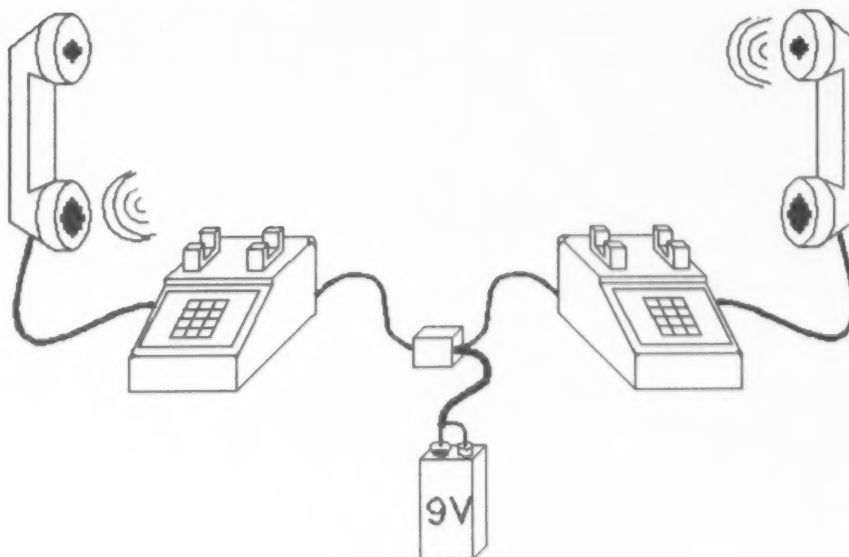

Figure 15 - Phone Connection
2. Connect the wiring harness to the two phones as shown in Figure 15.